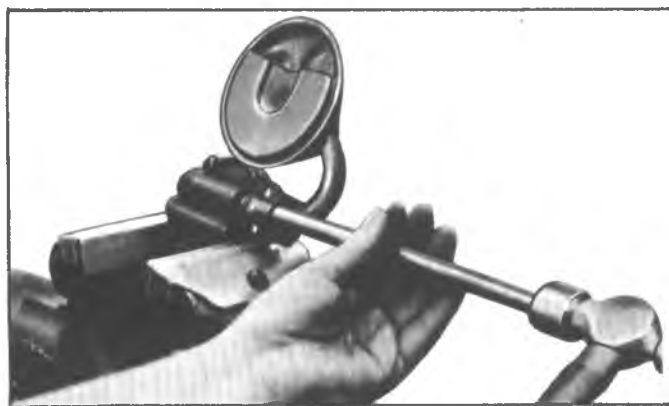

Fig. 37—Installing Screen ("Small V8")
1. If the pickup screen and pipe assembly was removed, it should be replaced with a new part. Loss of press fit condition could result in an air leak and loss of oil pressure. Mount the pump in a soft-jawed vise, apply sealer to end of pipe, and using Tool J-8369 for "Small V8" (fig. 37) or Tool J-22144 for "Mark IV V8" (fig. 38) tap the pipe in place with a plastic hammer.